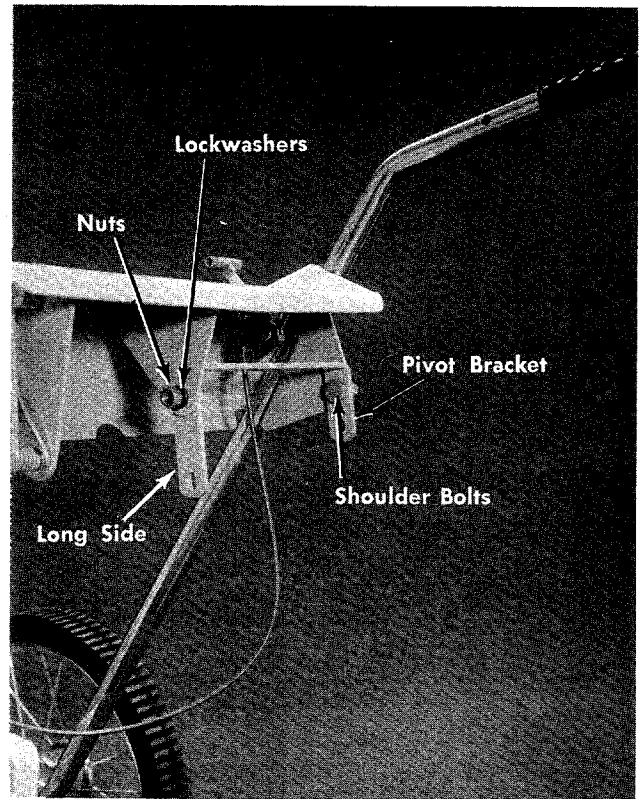

FIGURE 7
13. Assemble the pivot bracket, with the long side to the left, with two shoulder bolts, lockwashers and nuts. See figure 7.
Assemble both shoulder bolts from the inside as shown in figure 7.